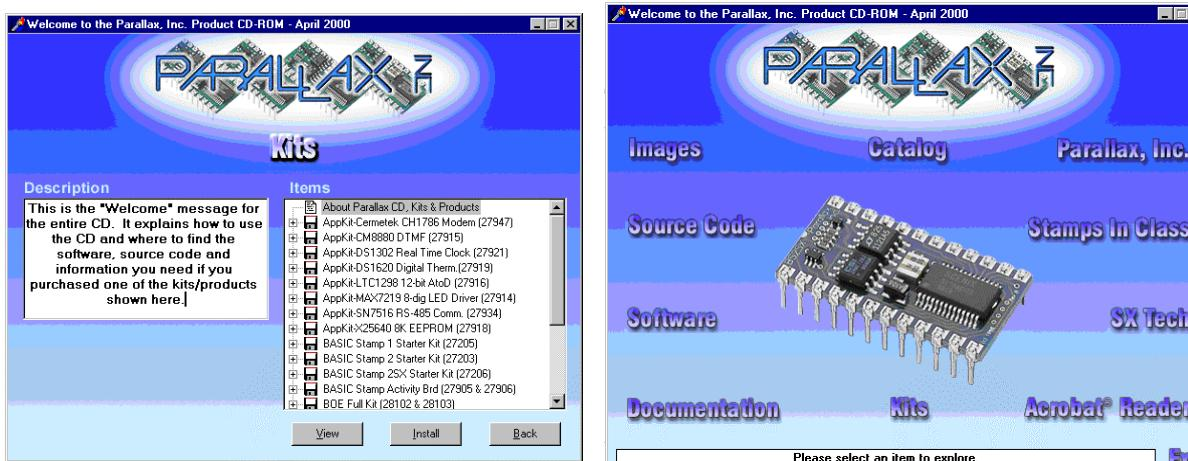

Figure 1.21: Welcome application (a) Kits page, and
The Parallax CD has a browsing program called the Welcome application that runs automatically after the CD is placed in your computer's CDROM drive. Figure 1.21 (a) shows the browser as it appears the first time the CD is placed in the computer's drive. Figure 1.21 (b) shows the browser as it normally appears when you run the Welcome application.
- If this is not your first time running the Welcome application, the Parallax page shown in Figure 1.21 (b) will display instead of the Kits page. Skip the next checklist instruction.